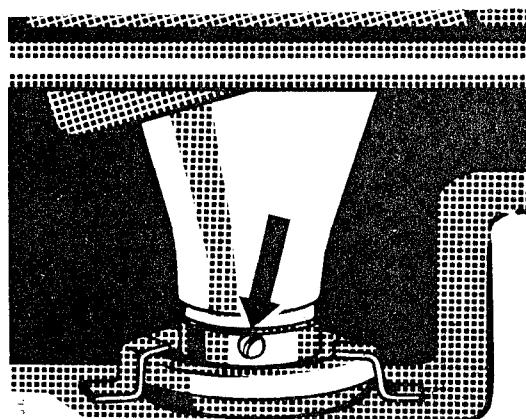

Fig. 12
16. Remove stabilizing bar bushing covers, move stabilizing bar down. Fasten the short rubber support at the bottom of the exhaust duct. Insert the exhaust duct into the exhaust tube in heater. Fasten rubber support to the diagonal chassis member through hole provided, making certain that the exhaust duct does not block the parking brake lever shaft. Drill a 3.2 mm hole, from the bottom, in the exhaust duct (see Fig. 12), and screw in a 4 mm sheetmetal screw to keep the duct from loosening or turning. Reinstall stabilizing bar.